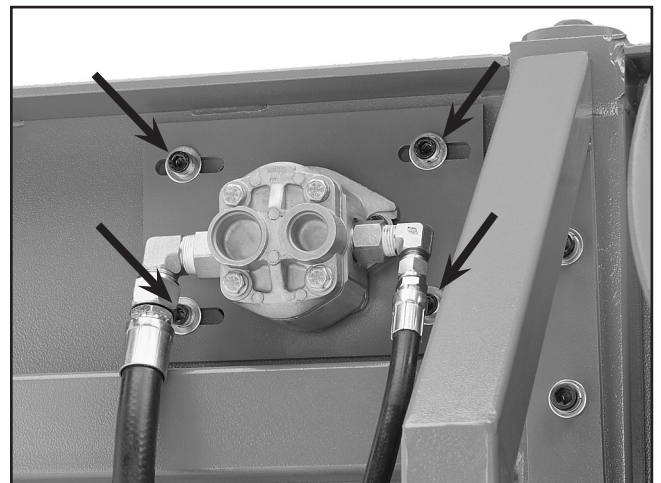

Figure 37. Pump seat cap screws.
2. Adjust the belt tension by loosening the cap screws shown in **Figure 37**.